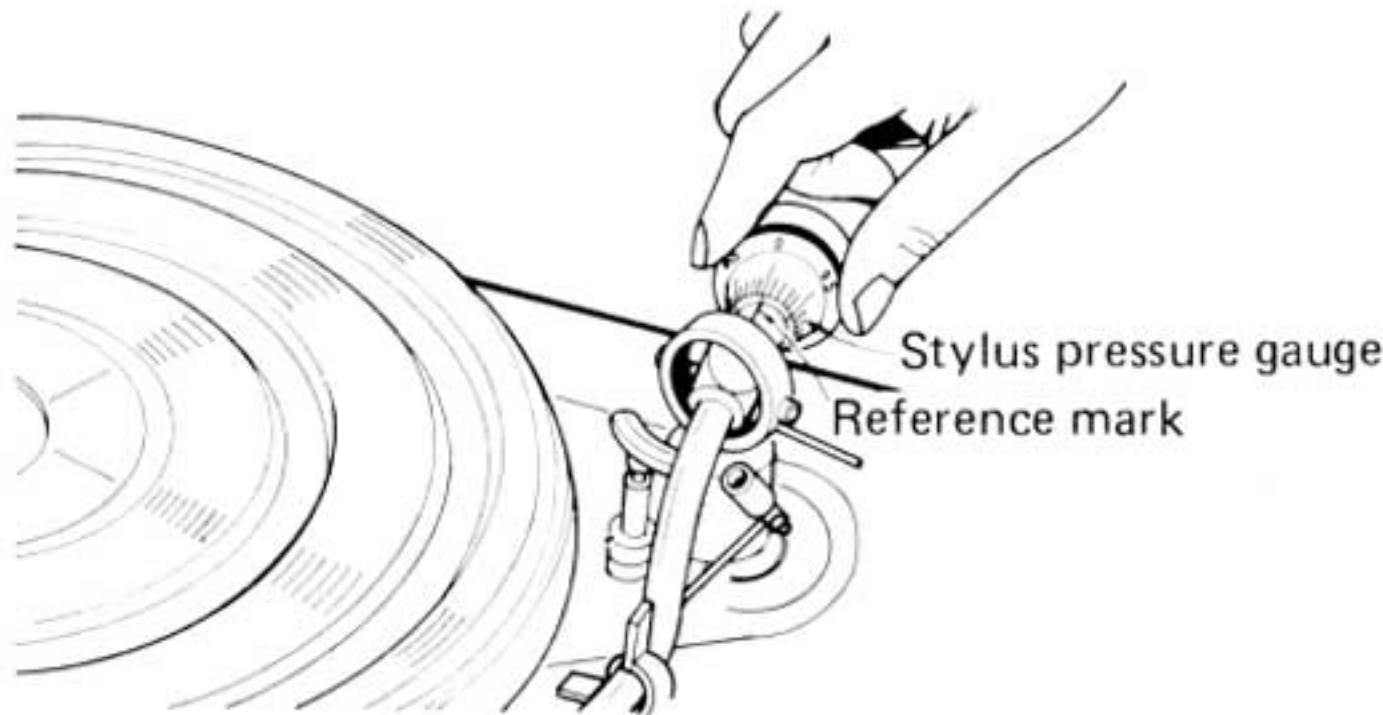

Fig. 5
- 3. Holding the weight so that it does not move, turn the stylus pressure gauge till it registers "0". Check to see that it is still balanced. (Fig. 5).